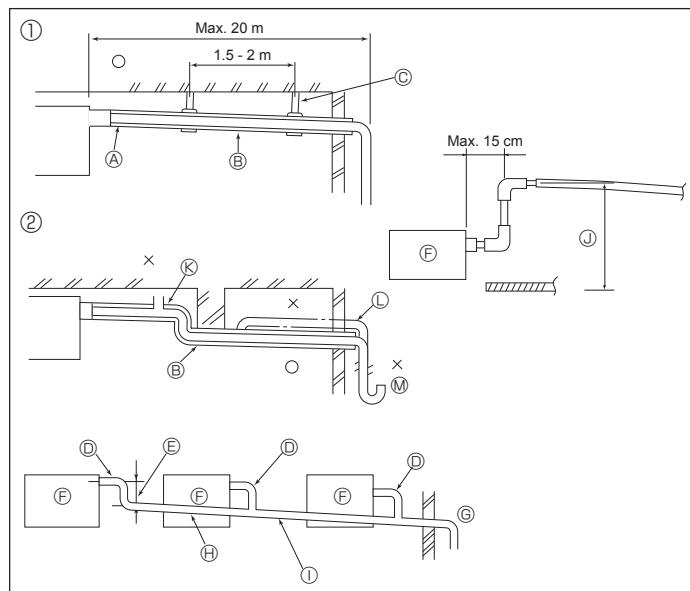

Fig. 5-1
5.1. Drainage piping work (Fig. 5-1)
① Correct piping	② Wrong piping	③ Support metal
④ Insulation (9 mm or more)	⑤ Air bleeder	⑥ Raised
⑦ Downward slope (1/100 or more)	⑧ L	⑨ Odor trap
⑩	⑪	⑫